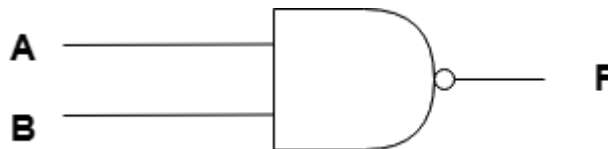

Figure 9.4: Two-input NAND Gate
- a. **NAND Gate:** The NOT Gate can be combined with the AND Gate to produce a NAND Gate (NOT-AND). It implies an AND gate with a complemented (inverted) output. It can also be represented diagrammatically, as shown in Figure 9.4. Note the circular shape at the output.
The NAND gate represented in Figure 9.4 has two inputs (A and B) and one output (F). Below is a simple table for this two-input NAND gate.